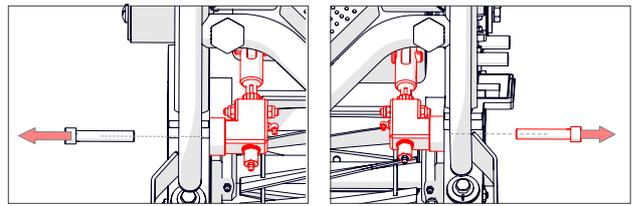

Fig. 16G - Remove the shear blade top bolt and saddle washer
7. Remove the 2 x M12 cap head bolts [10 mm hex key] from both sides of the machine securing the shear blade adjuster block (Fig. 16G).